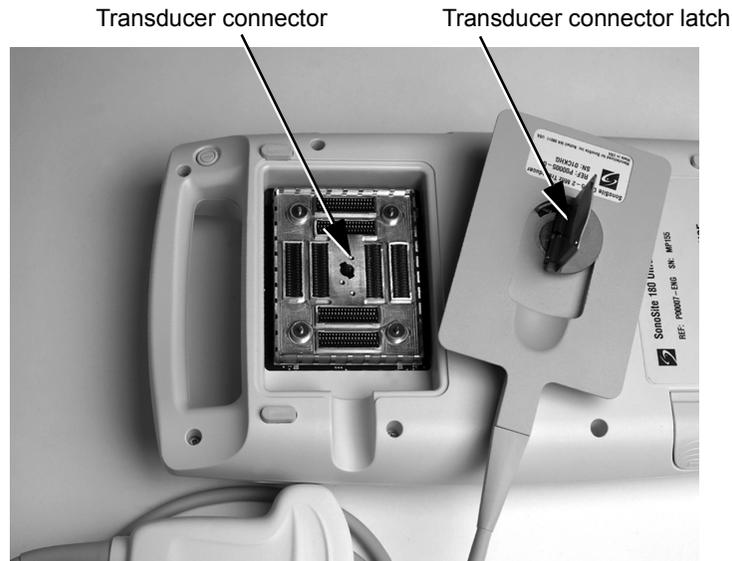

Figure 4.1 Connecting the Transducer
- 1 On the transducer connector, pull the latch up and rotate it clockwise until it snaps to a stop (Figure 4.1). The latch should be easy to move. Do not force the latch.
- 1 On the transducer connector, pull the latch up and rotate it clockwise until it snaps to a stop (Figure 4.1).